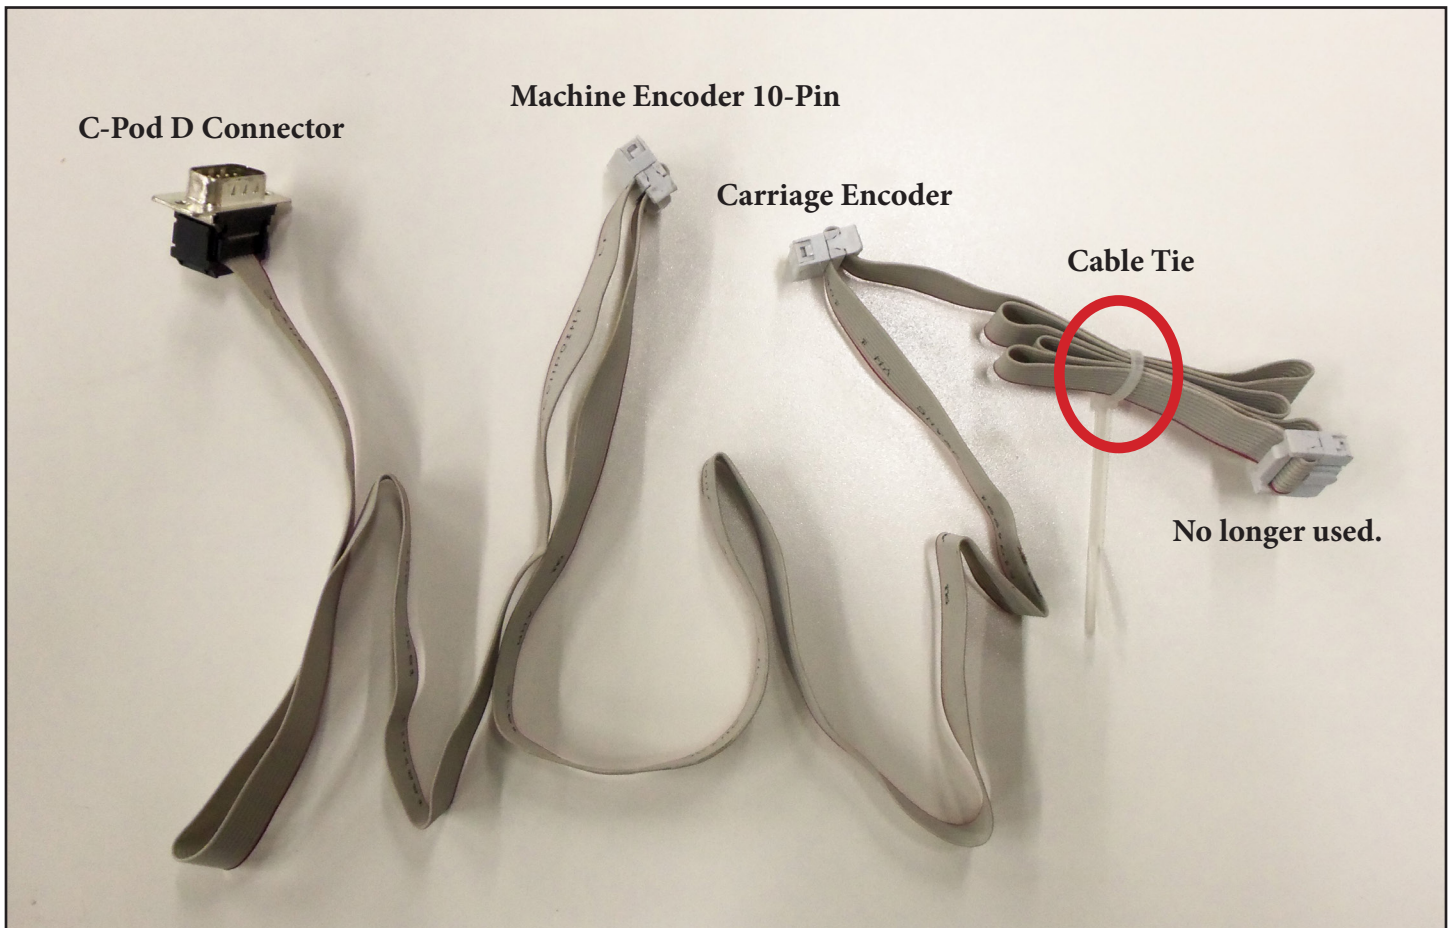

Figure 29
13. The current flat stitch regulator cable may continue to be used, but the cable will be too long and have one extra connector. With the stitch regulator cable plugged into the carriage encoder, leave the last connector disconnected and plug the 10-pin connector closest to the 9-pin D-connector into the machine encoder adapter board (*Figure 29*). Use a cable tie to tie up the excess cable that is left after the quilting machine is fully extended toward the back.